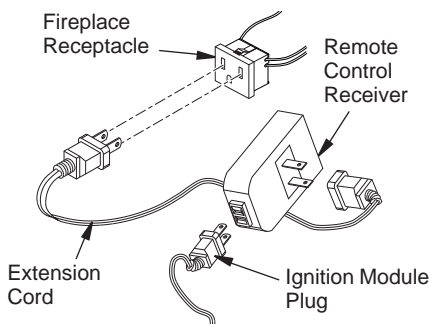

Figure 46 - Installing the WRC Remote Receiver
2. WRC model receiver does not require a battery. Receiver can be installed by first plugging short extension cord into fireplace receptacle. Plug receiver unit into extension cord. Finally plug ignition module plug into receiver unit (see Figure 46).